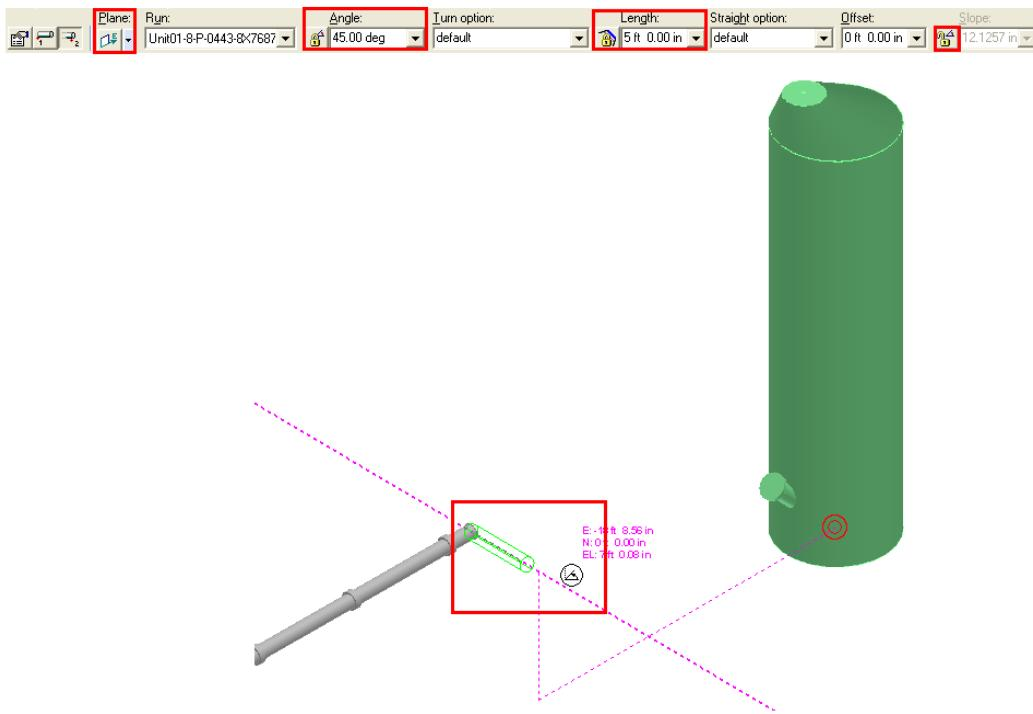

Figure 15: 5 Ft Pipe Routed
24. Select the **Lock Slope** option on the **Route Pipe** ribbon to unlock the slope constraint and route the sloped pipe, as shown in Figure 15.